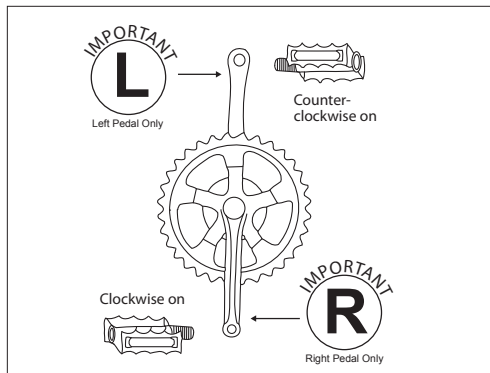

Fig. 11: Install the pedals.
2. The **right** pedal is installed by turning the pedal axle clockwise. The **left** pedal is installed by turning its axle counterclockwise (Fig. 11).